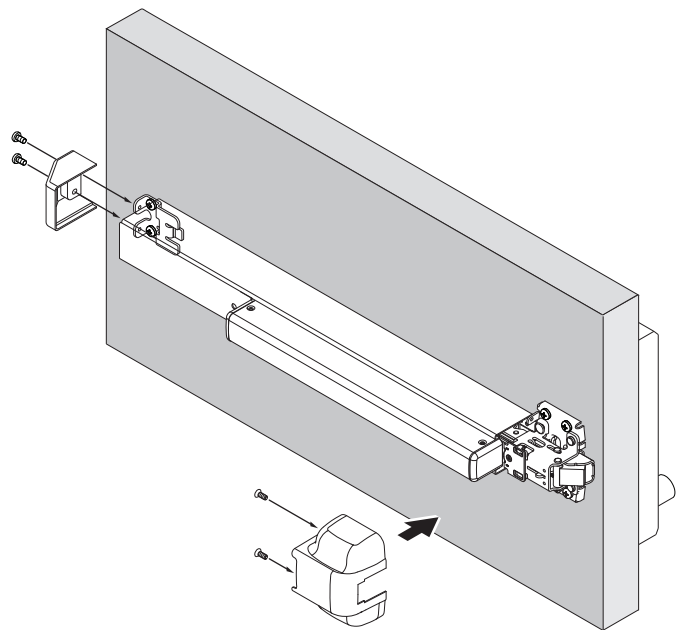

**Figure 1**
2. Depress pushbar and make sure latchbolt retracts and extends fully (see Figure 1).